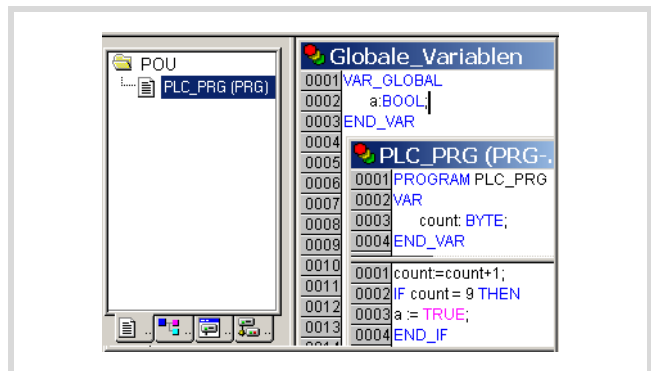

Figure 37: Creating a POU for a cyclic task
- ▶ Move from the task configuration to the POU's tab and right-click on the default program POU PLC_PRG. Enter the program as shown in Figure 37.